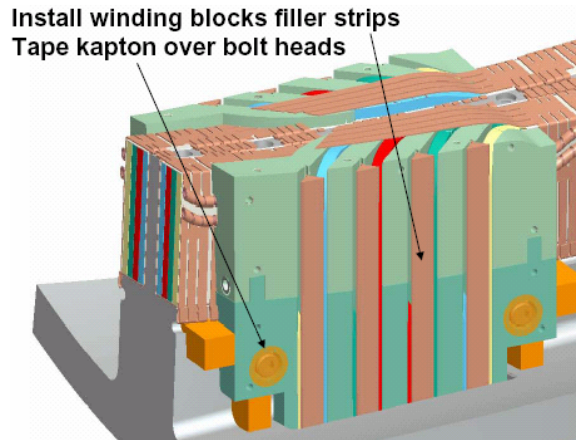

Figure 33- Winding Block Filler Strips
- 6.41.1 Install the pre-insulated (w/Kapton tape) copper filler strips into the conductor slots in the upper G-11CR winding block fillers. Complete sides "A" and "B". [Figure 33- Winding Block Filler Strips]
- 6.41.2 Place adhesive backed Kapton tape over the lower winding block mounting hardware. [Figure 33- Winding Block Filler Strips]